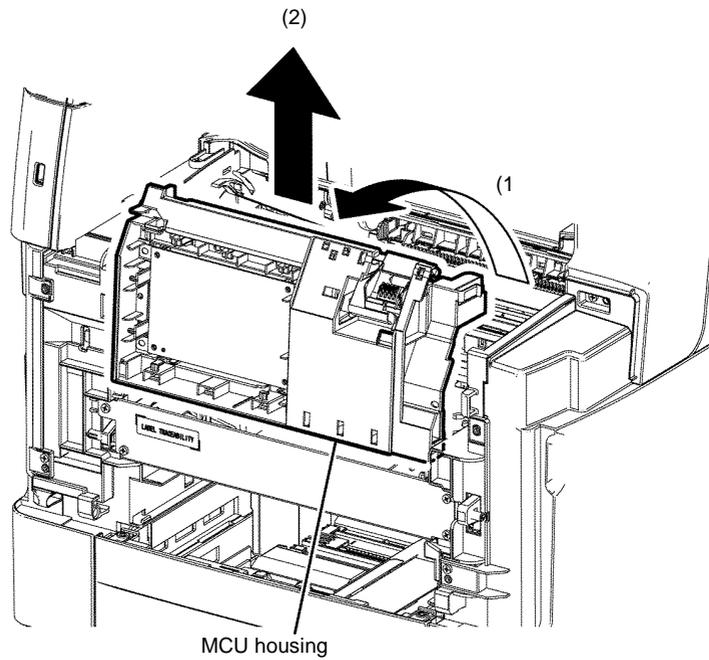

Figure 3 MCU housing removal
5. Rotate the MCU housing in the arrowed direction, release the hook, then remove the MCU housing from the printer, Figure 3.